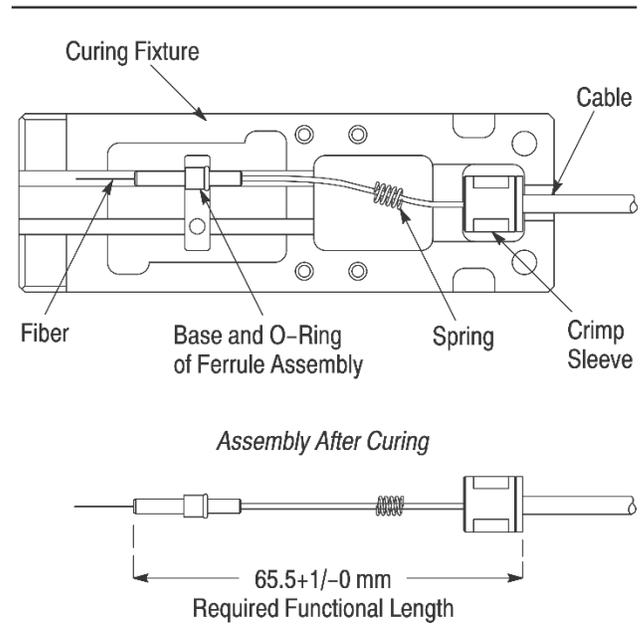

Figure 7
19. Remove the assembly from the curing fixture according to 408-8857. Measure the assembly to make sure that it conforms to the dimension given in Figure 7. If it does not, re-strip and re-terminate the fiber.